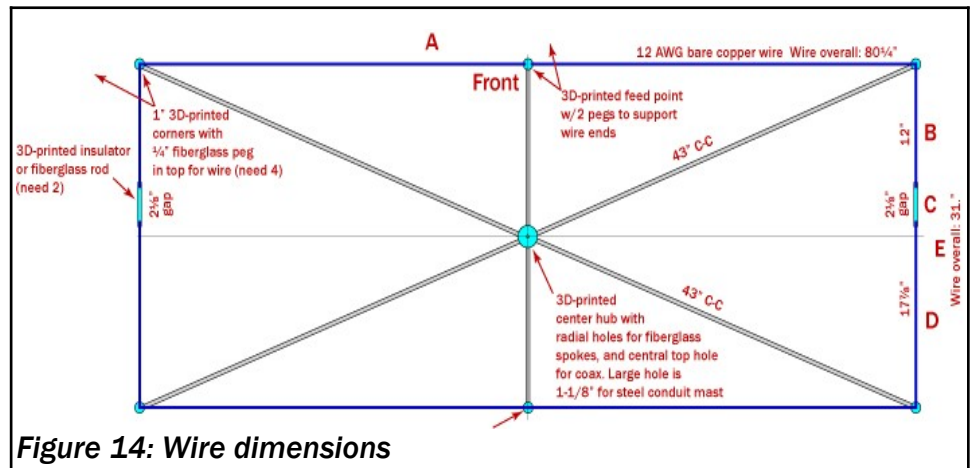

Figure 14: Wire dimensions
Figure 14 is a bare-bones Moxon plan that emphasizes the antenna wire sections A
- a) Start at the upper-left corner peg in **Figure 14**. Feed a length of wire at least 108"(A,B) long through "end" side of the hole in that peg. Lengths are:
- c) Bend the short portion of the wire so it is *perpendicular* to the front of the frame, pointing toward the lower-left peg in **Figure 14**.
- i) Again start at the left end of **Figure 14**. Feed a length of wire at least 118”(A,D) long through the lower-left corner peg, through the single reflector insulator peg, and through the lower-right corner peg. Lengths are:
- k) Bend the short portion of the wire so it is *perpendicular* to the front of the frame, pointing toward the upper-right peg in **Figure 14**.